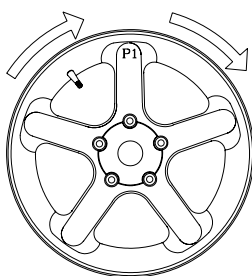

Figure 29c
8. Rotate the wheel to the first spoke or closest spoke position with P1 on the display. Press the enter key for position one. Figure 29c